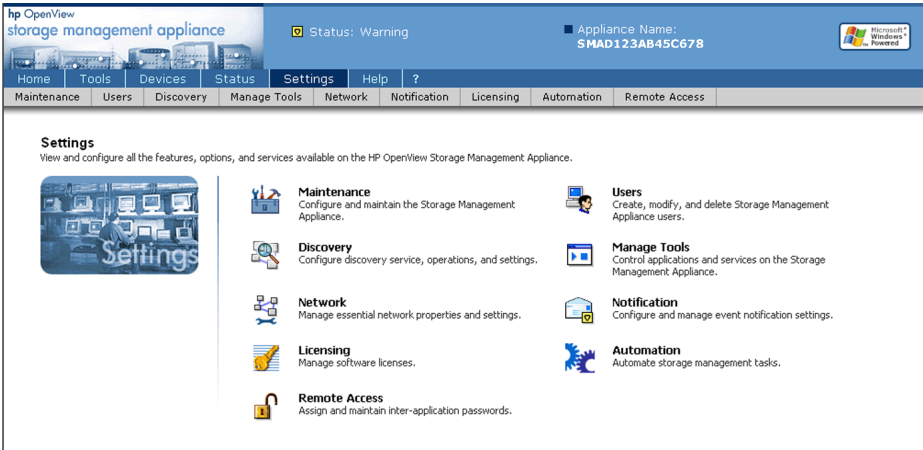

Figure 33: SMA Settings page
2. Click **Settings** on the primary navigation bar. The SMA Settings page is displayed (Figure 33).